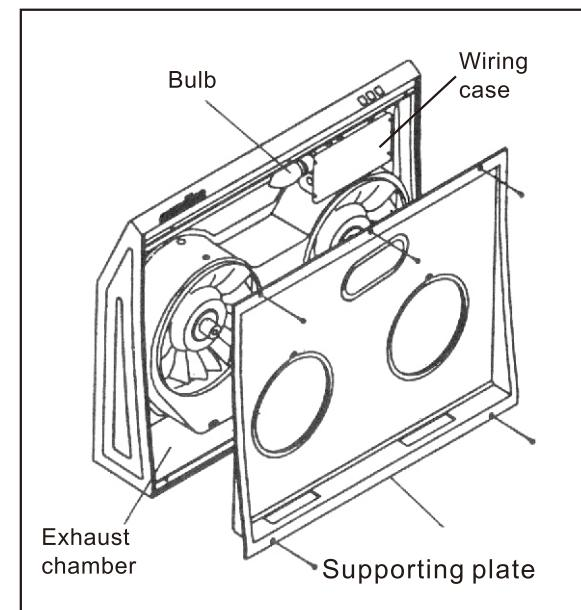

Fig.11 Remove the middle support plate
7. Loosen the screws on the supporting plate with a philips screwdriver. (Fig. 11)